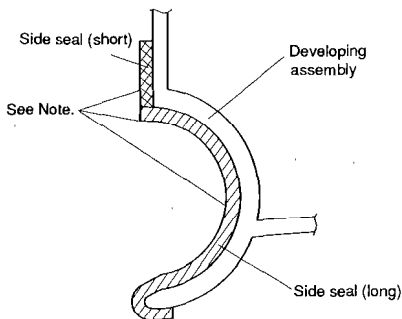

Figure 4-81 (cross section)
- ii Make sure that the short and long seals are positioned as shown in Figure 4-81.